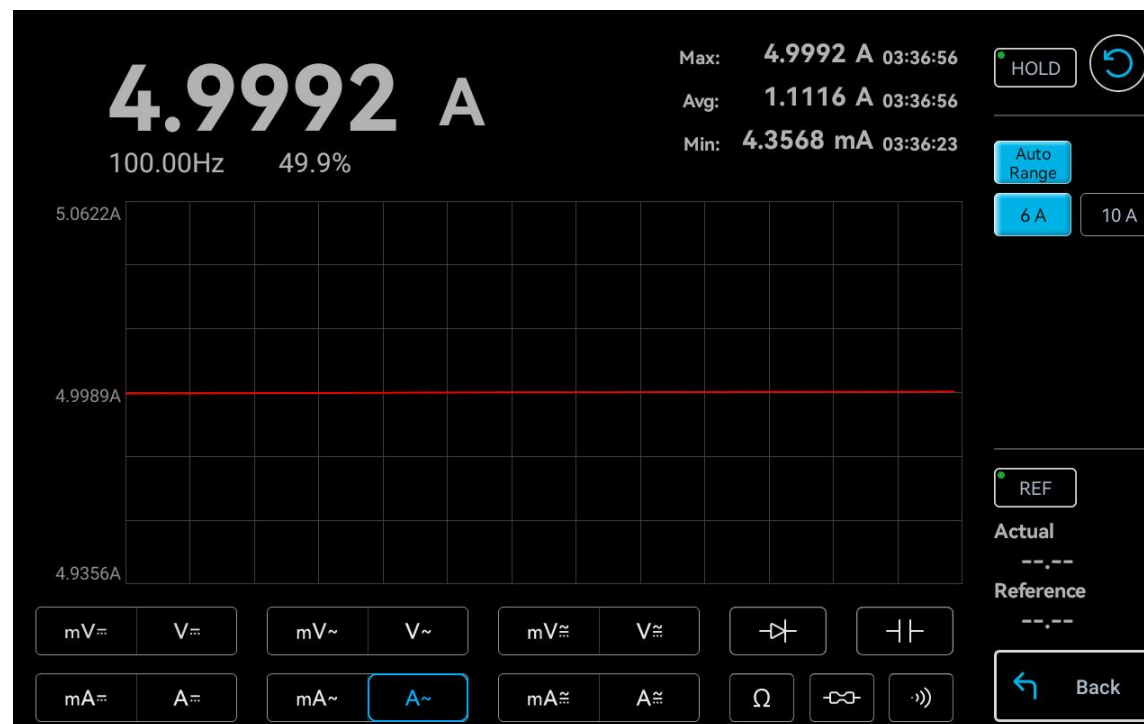

Figure 9-10 AC Current Measurement (A)
Test Steps: Select and enable the AC current measurement (A) in the measurement item selection area **A~**, as shown in Figure 9-10.